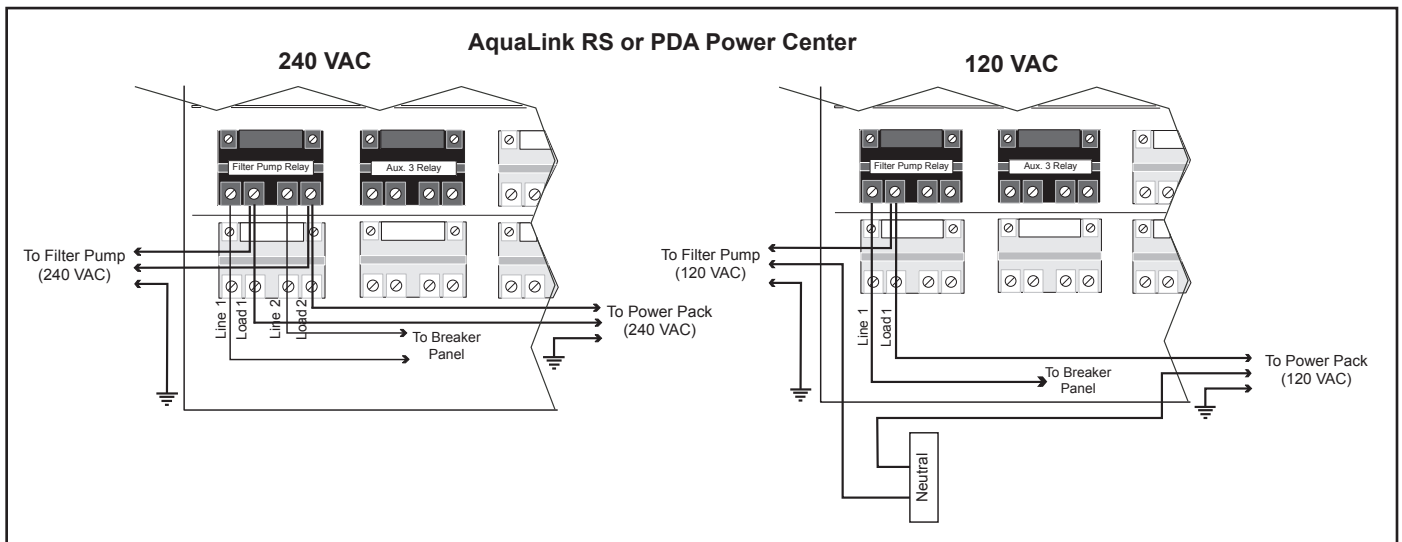

Figure 20. Wiring Power Pack to an AquaLink RS or PDA Power Center (240 VAC and 120 VAC)
6. In the AquaLink® RS or PDA power center, wire the power pack directly to the LOAD SIDE of the filter pump relay (see Figure 20).